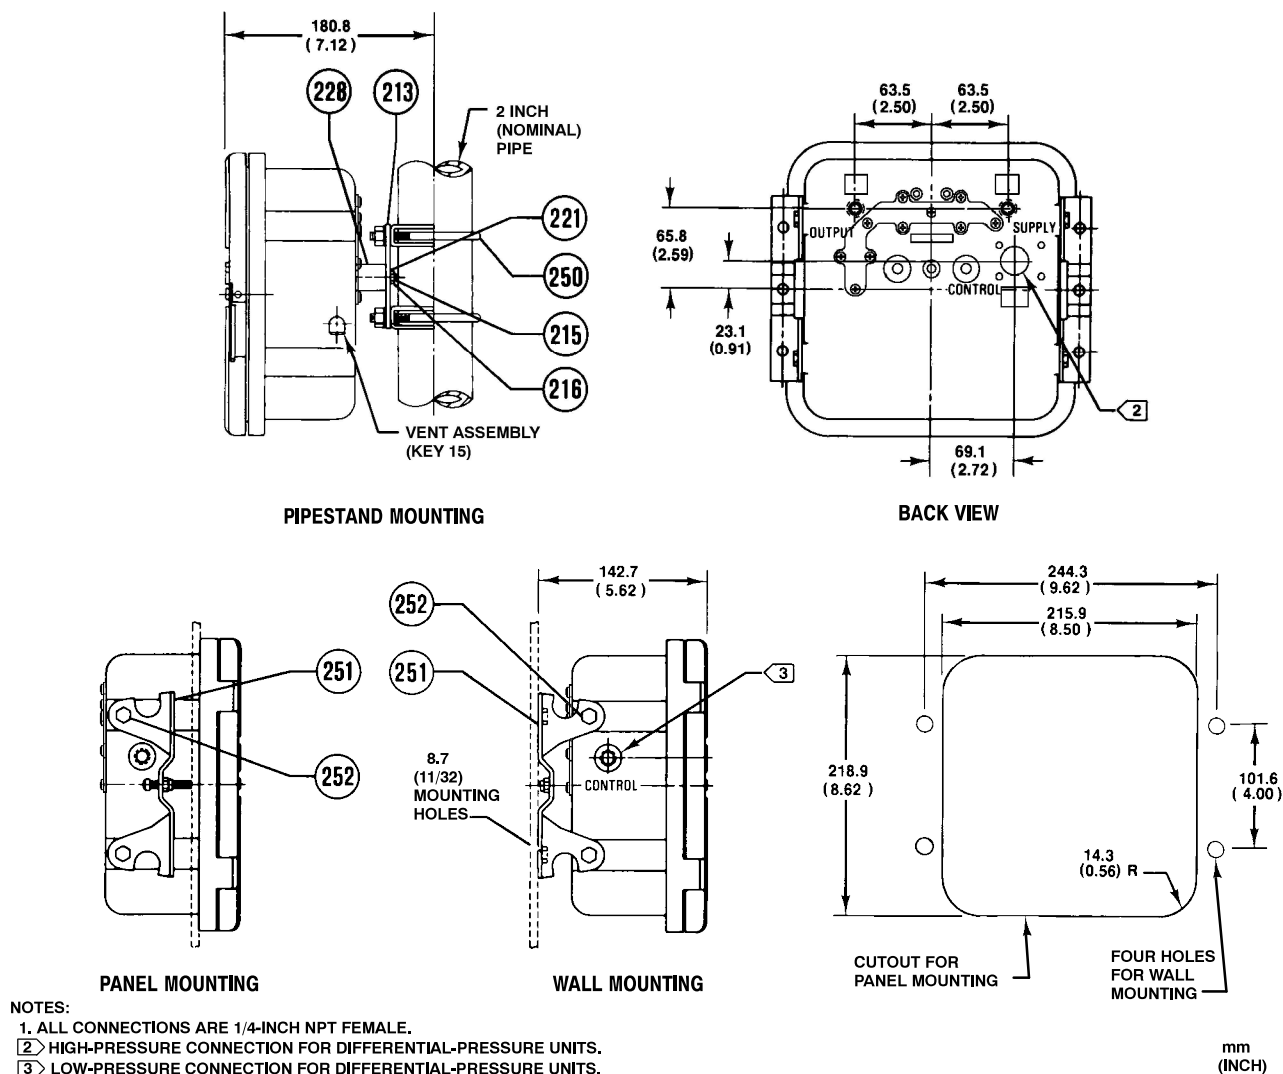

Figure 3. Panel, Wall, and Pipestand Mounting
The instruments are normally mounted vertical with the case/cover as shown in figure 1. If installing the instrument in any other position, be sure that the vent opening shown in figure 3 is facing downward.
Refer to figure 3.
Cut a hole in the panel surface according to the dimensions shown in figure 3. Remove the cap screws (key 252), brackets (key 251), and vent assembly (key 15). Slide the controller or transmitter
Drill four holes in the wall using the dimensions shown in figure 3. In the bracket (key 251) are 8.7 mm (0.3438 inch) diameter holes. Back out the cap screw located in the center of each bracket. (The screws are used for panel mounting but are not required for wall mounting.) If tubing runs through the wall, drill holes in the wall to accommodate the tubings. Figure 3 shows the pressure connection locations in the back of the case.
All pressure connections on 4150K and 4160K Series instruments are 1/4-inch NPT female. Use 6 mm (1/4-inch) or 10 mm (3/8-inch) pipe or tubing for supply and output piping. The pressure connection locations are shown in figure 3.
For gauge pressure instruments: The control pressure block (key 8 in figure 18) has two connections. Process pressure can be connected either to the CONTROL connection on the back of the case, or to the connection on the left side of the case, shown in figure 3, depending on the instrument application. Plug the unused connection.
For differential pressure instruments: Connect the low pressure line to the CONTROL connection on the side of the case and the high pressure line to the CONTROL connection on the back of the case as shown in figure 3.
The vent assembly (key 15, figure 3) or the end of a remote vent pipe must be protected against the entrance of all foreign matter that could plug the vent. Use 13 mm (1/2-inch) pipe for the remote vent pipe, if one is required. Check the vent periodically to be certain it has not become plugged.